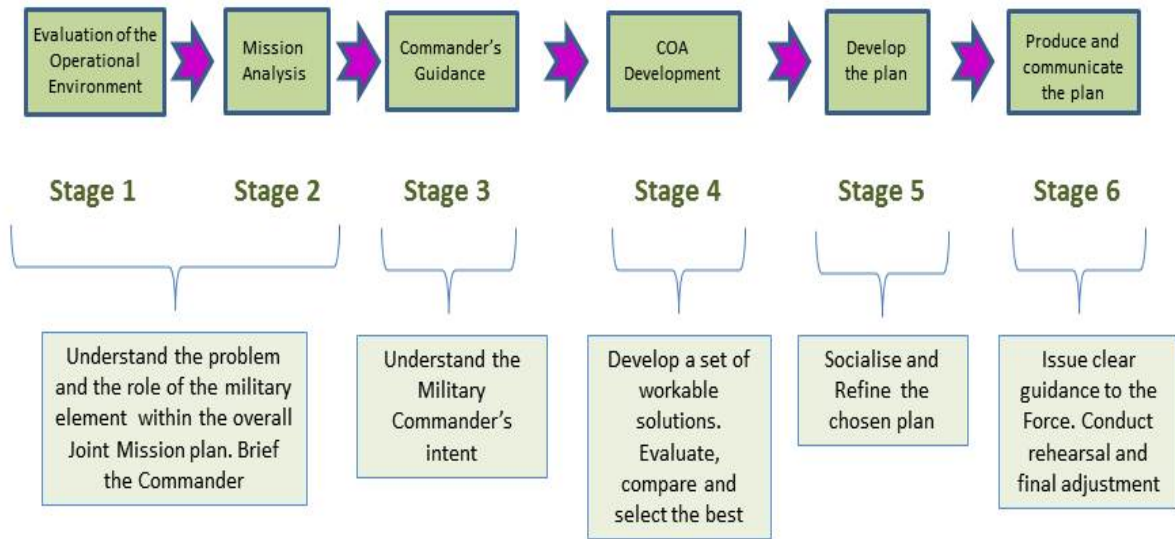

Figure 1
4. The Force HQ follows a six (6) stage tactical planning/estimate process that ensures their activities are conducted in a logical sequence. Templated planning tools are used throughout in order to extract the necessary detail and enable focused analysis of the problem. Those templates are contained within the Annexes of this SOP. The staff must be familiar with these tools and take ownership of them to ensure that the process is efficient and has the rigour, precision and detail necessary to produce and communicate an effective plan in a timely manner. The COS and Ch J3/5 are responsible for ensuring that the staff understand their tasks and adhere to the timelines required. Detailed individual responsibilities are contained in ANNEX B. The Force HQ planning sequence is shown in outline at Figure 1.